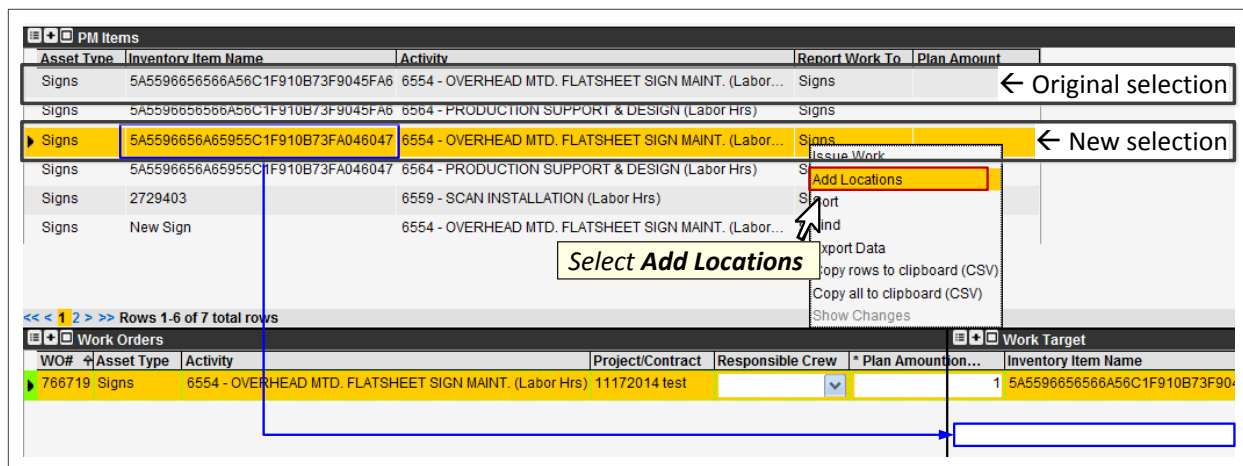

Figure 5-15. Issue ~ PM – Add Locations from PM Items
- b. Perform an **Add Locations** function (Figure 5-15) as many times as desired to create new records in the Work Target pane.
TIP! If a selected record for the **Add Locations** function (Figure 5-15) is not compatible with the selected **Work Order Activity**, the user will see an error message.